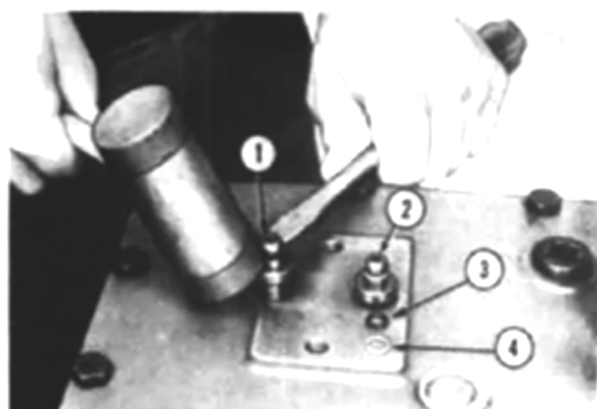
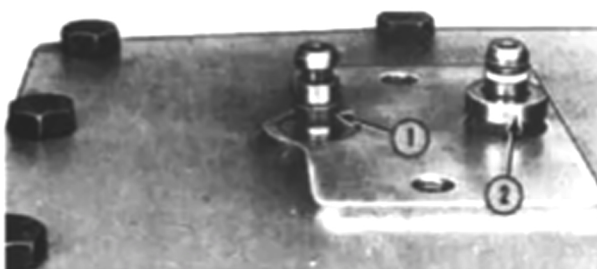

Fig. 108 - When retainers (2) are tapped downward as shown in Fig. 107, tube locks (1) are exposed for removal.
Fig. 109 - With the servo pressure check cover removed, use a tie-rod end tool and unscrew the servo regulator valve assembly.
Attach an engine stand to left side of hydrostatic housing and remove hoist. Unbolt and remove the multi-valve and drive control valve assemblies and lay aside for later disassembly. Refer to Fig. 107 and remove Teflon back-up rings and "O" rings from the high pressure lines. Support high pressure lines with a screwdriver, tap tube lock retainers (2- Fig. 108) downward and remove tube locks (1) and retainers (2). Unbolt and remove the pump servo access cover. Note location of different length cap screws for aid in reassembly. Remove top cover and control cam assembly. Remove the servo pressure check cover assembly from right side of housing. Using a tie rod end tool, remove the servo regulator valve (Fig. 109). Refer to Fig. 110 and remove pump servo supply tube (4). Disconnect servo supply tube from tee (2), then remove the tube and servo regulator body as an assembly. Unbolt pump servo from swashplate and rear anchor trunnion and lift servo from housing. Unbolt and remove motor servo in the same manner. Remove the servo anchor trunnions, noting the shims under pump servo trunnion. Unbolt and remove covers from left and right sides of housing. Remove the forward and reverse high pressure lines (Fig. 111) and the elbow fittings from the relief valves.